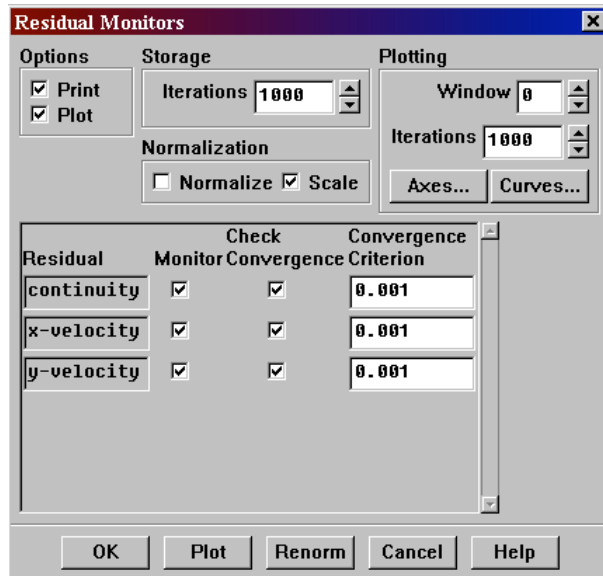

Fig. 12. Residual Monitors panel
7. In order to understand the behavior of the calculation, you will need to turn on the residual graph by clicking on **Solve/Monitor/Residual** (Fig. 12). Then turn on **Plot** under **Options**.